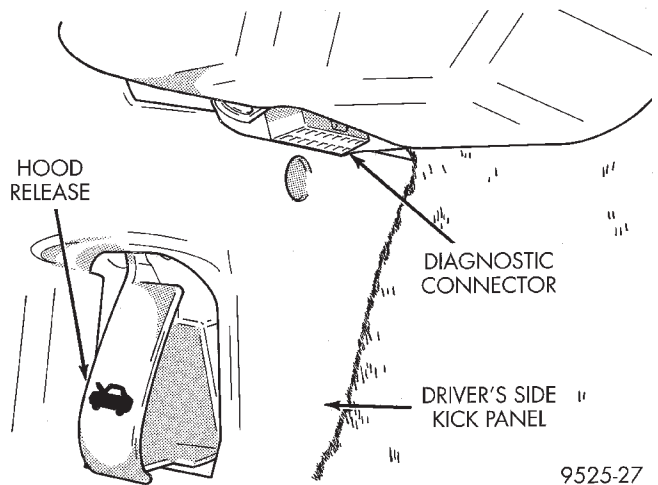

Fig. 9 ABS System Diagnostic Connector Location
(1) Assemble and install all brake system components on vehicle making sure all hydraulic fluid lines are installed and properly torqued.
(2) Connect the DRB scan tool to the diagnostics connector. The diagnostics connector is located under the lower instrument panel next to the left kick panel (Fig. 9).